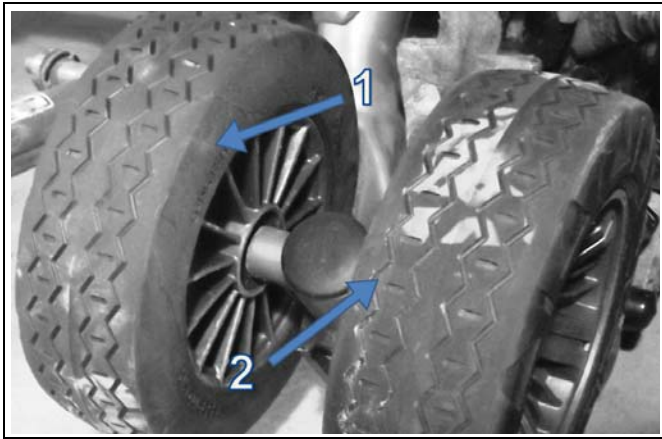

Figure 30
Verify the wear of the urethane tires especially on the interior guidance strip (1) and between the tire profiles (2). The wheel must be replaced if the inner surface is worn out or the tire is cracked between the tire profiles. A wheel that is excessively worn will not offer enough support for the track's guidance. Refer to Figure 30.